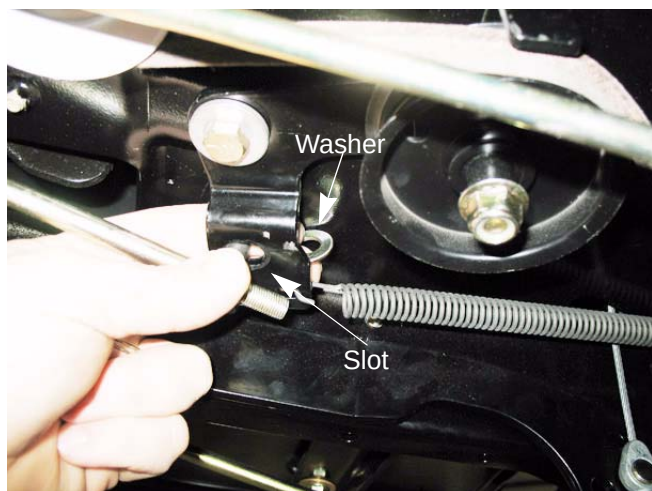

Figure 5.8
See Figure 5.8.
- Adjust the ferrule so that it lines up with the middle of the slot and slides in without pulling on the spring. See Figure 5.8.